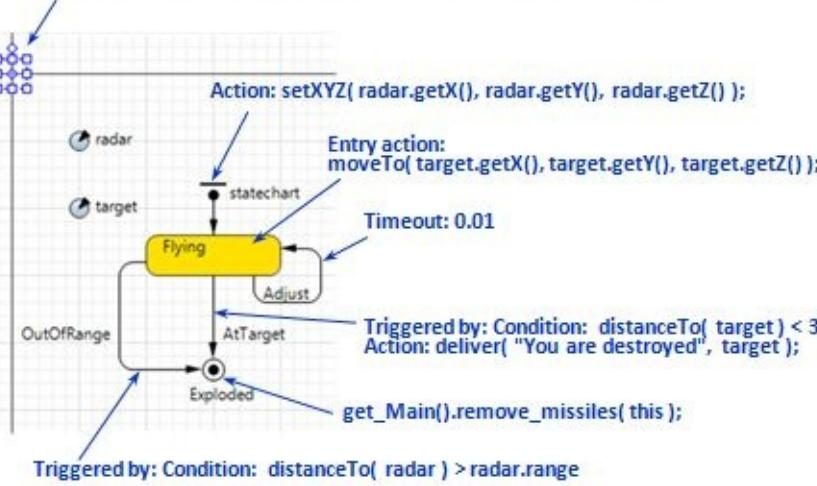

Figure 3.31 The internals of the Missile object
65. Draw the statechart of the *Missile*, as shown in Figure 3.31.